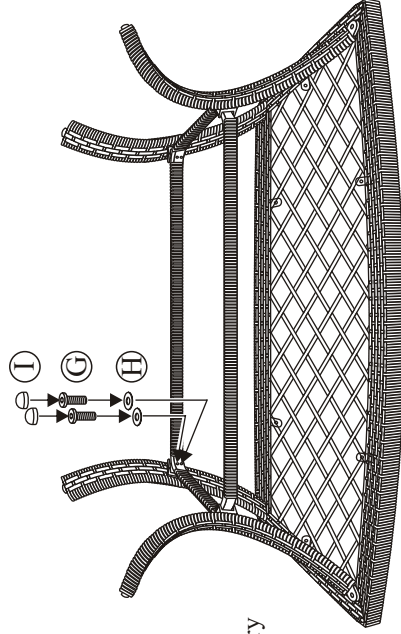

Figure 2
Step 3: Attach the leg connector bracket to the legs by using the 1/4"x35 mm bolts as shown in *Figure 2*. Add a washer to each bolt. Guide these bolts through the holes in the leg connector bracket, into the fixed nuts already in place in the legs. **Do not over tighten.**